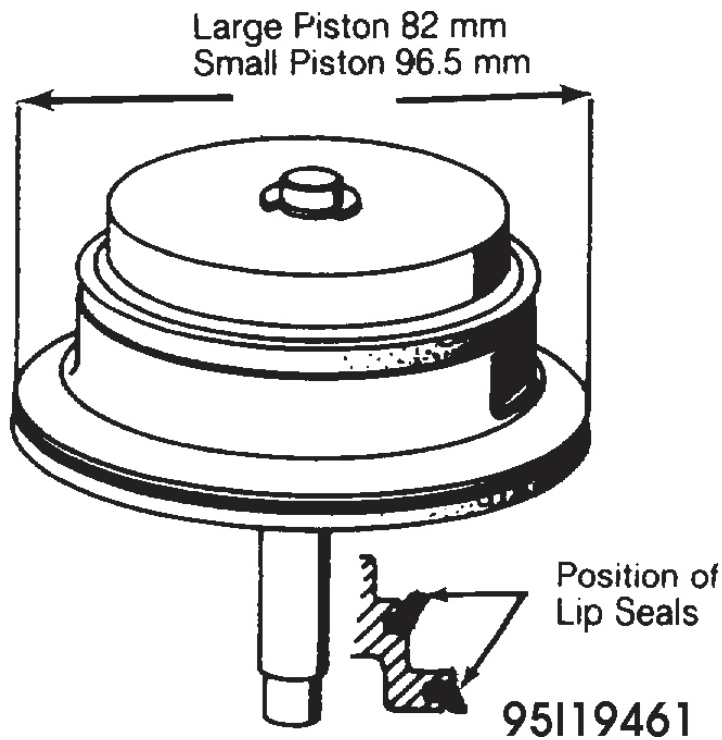

Fig. 16: Installing Servo Piston Seals
2. Install new lip seals on piston as follows: Smaller (upper) seal is installed on piston with lip facing upward (into servo cover). Larger seal is installed on piston with lip pointed downward (out of servo cover). See **Fig. 16**.